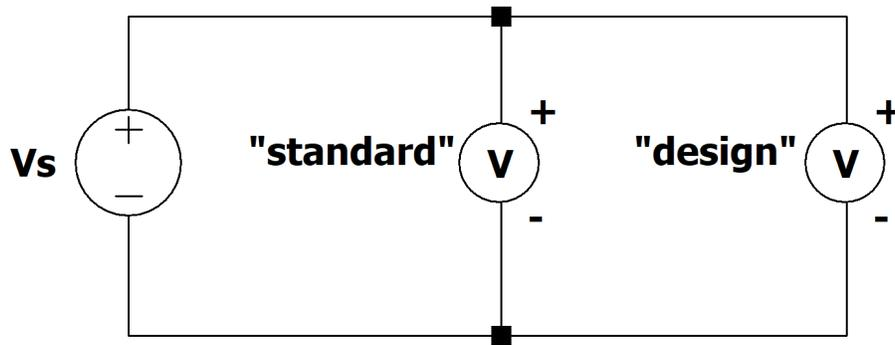

Figure 2. Voltmeter test circuit
6. Construct the circuit of Figure 2 using your designed voltmeter.